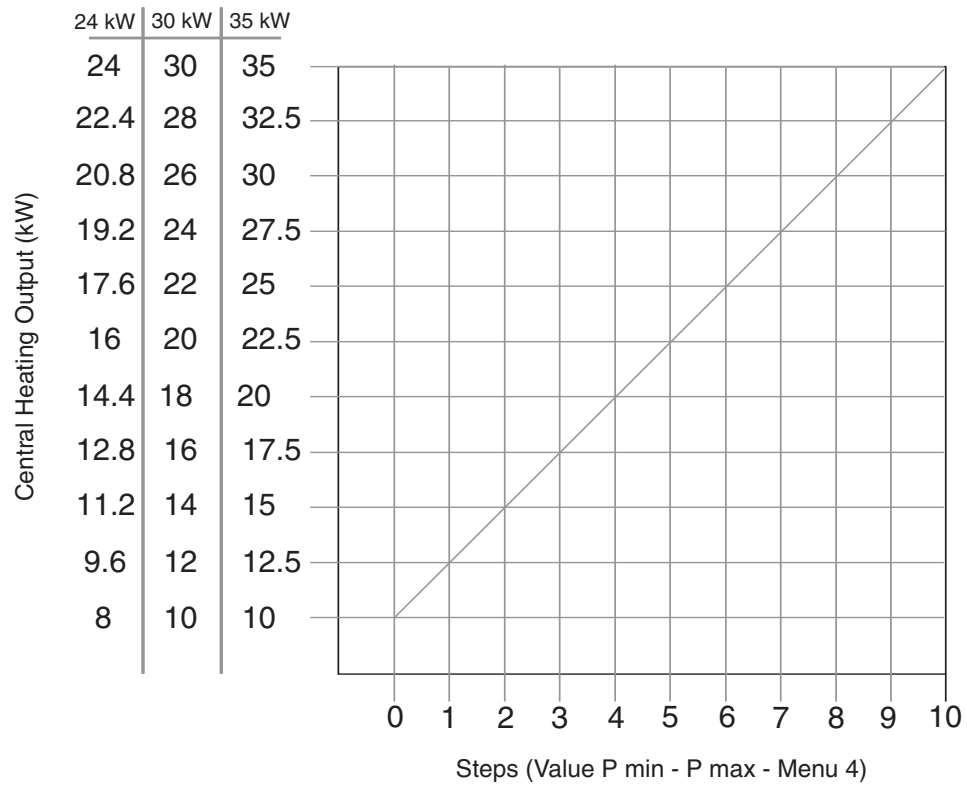

Fig. 39
5. Range rate the thermal power for central heating as detailed in Section 14.5. To adjust the maximum heating power it is necessary to follow the steps in Section 14.5 Menu 4 (page 30). and adjust in relation to the chart on Page 33 (Fig. 39);